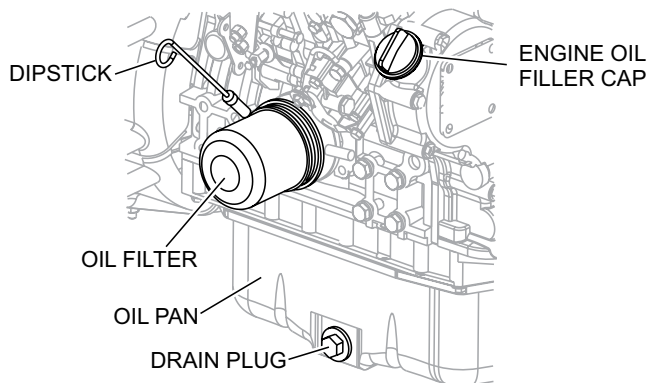

Figure 22. Engine Oil Service Components
- Remove the oil filler cap while draining the oil (Figure 22) to allow the engine to drain easily.